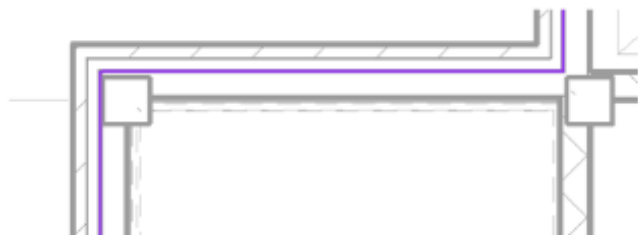

Figure 9–15
10. Select the main outside walls. The sketch line displays at the core of the wall, as shown in Figure 9–15. Do not select the three curved walls.